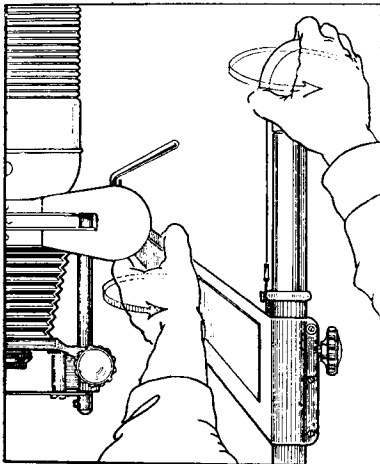

Figure 7
13. Never swing the enlarger from side to side when it is at the top of the post. Otherwise the metal tape will kink or break. To swing the enlarger when it is raised high, turn the counter-balance with one hand and turn the enlarger in the same direction with the other hand. See Figure 7.
55. It is easy to make enlargements of more than 8 times with the Federal Enlarger, using the standard $3\frac{1}{2}$ " lens. One method is to project over the table edge. To turn the enlarger, move the enlarger with one hand, simultaneously moving the counter-balance in the same direction with the other hand, as in Figure 7, so that you do not kink or break the metal tape. The baseboard of the enlarger is heavy enough to balance it in this position. To be sure that you do not accidentally tip it over, you may, if you wish, place a heavy object on the baseboard.